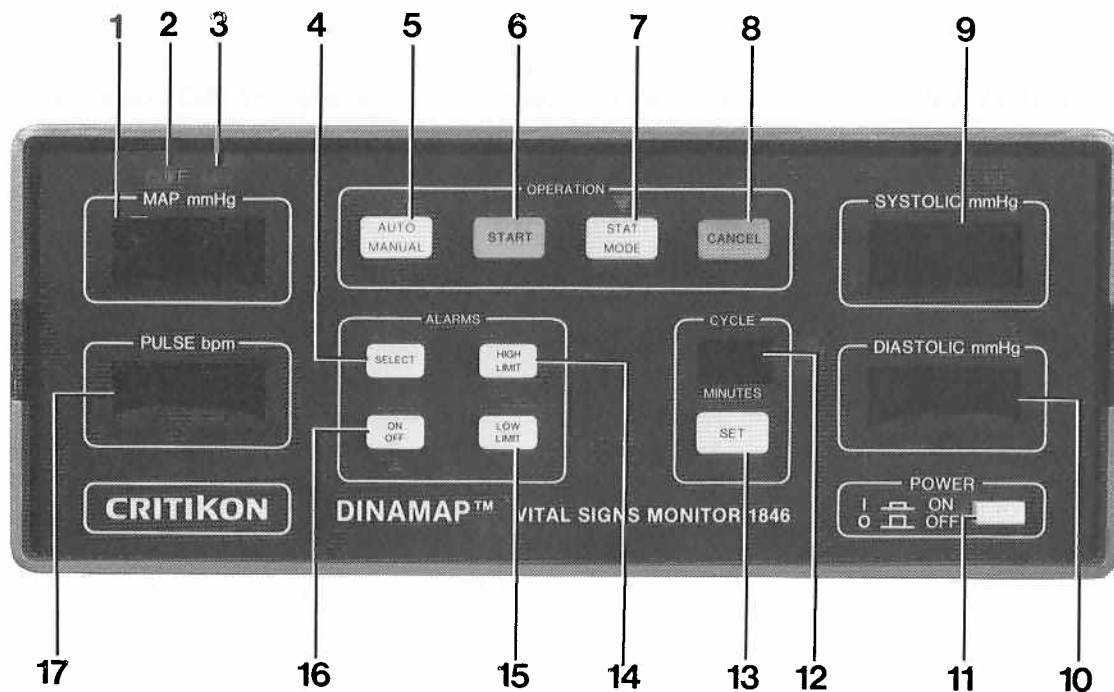
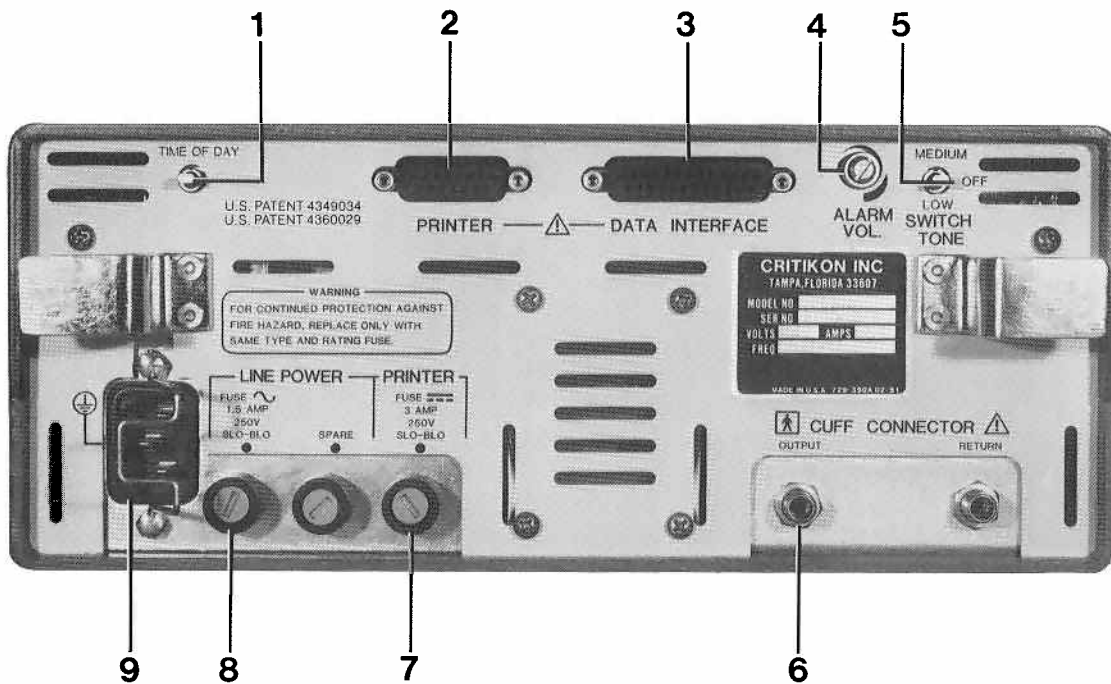

Figure 5-1 Front Panel Controls and Indicators
Figure 5-2 Rear Panel Controls and Indicators
5.2 Controls and Indicators Controls and indicators are situated on both the front and rear panels of the DINAMAP™ Vital Signs Monitor. The front panel controls and indicators are shown in figure 5-1 and defined in Table 5-2. The rear panel controls and indicators are shown in Figure 5-2 and defined in Table 5-3.